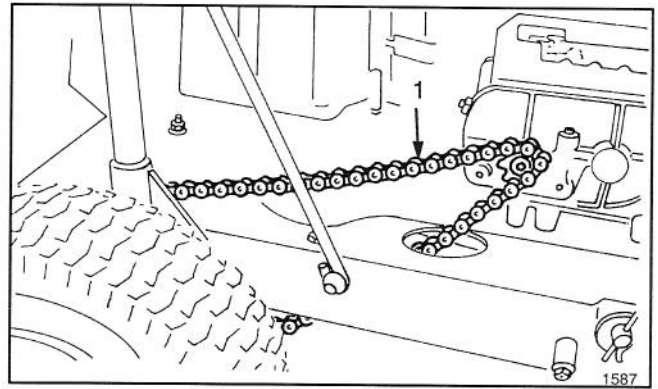
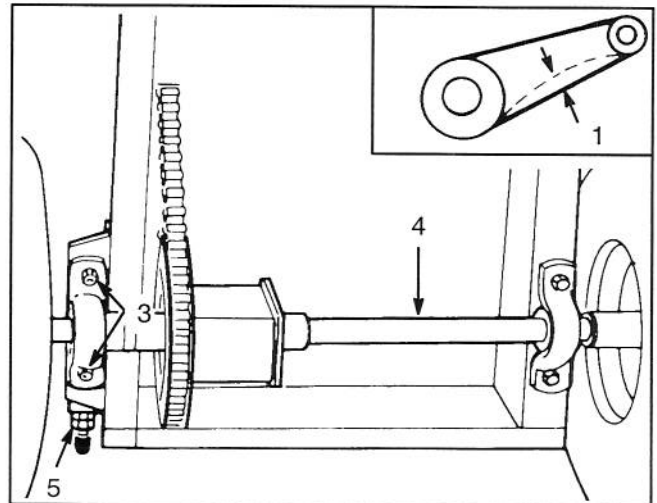

Figure 21
Figure 22
2. Check deflection of drive chain by lifting up and pressing down on chain with moderate pressure at mid span (Fig. 21). There should be 1/8 of an inch (3 mm) total deflection (Fig. 22). If deflection is not as specified, an adjustment is required—steps 3-13.
7. Loosen four flange nuts securing pillow blocks w/differential axle to the rider frame (Fig. 22).
8. Loosen rear jam nut on chain tensioner (Fig. 22).
11. Since differential axle must be parallel to rear of chassis, measure distance from center of pillow blocks to rear of chassis (Fig. 22). Difference between the two measurements must not exceed 1/8 inch. If difference exceeds 1/8 inch, differential axle is not parallel with chassis; therefore it must be readjusted.